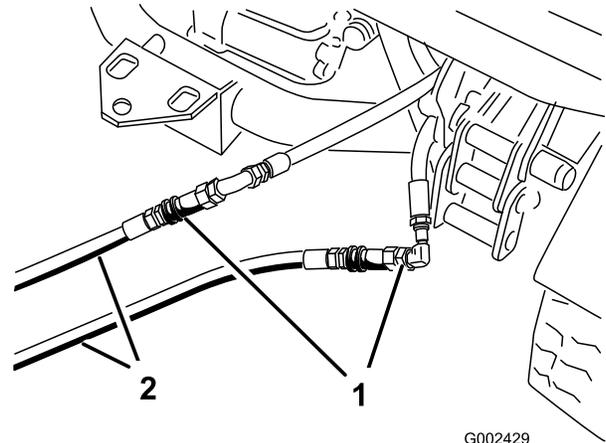

Figure 93
- On the disabled vehicle, connect the 2 jumper hoses to the hoses that were disconnected (Figure 93).